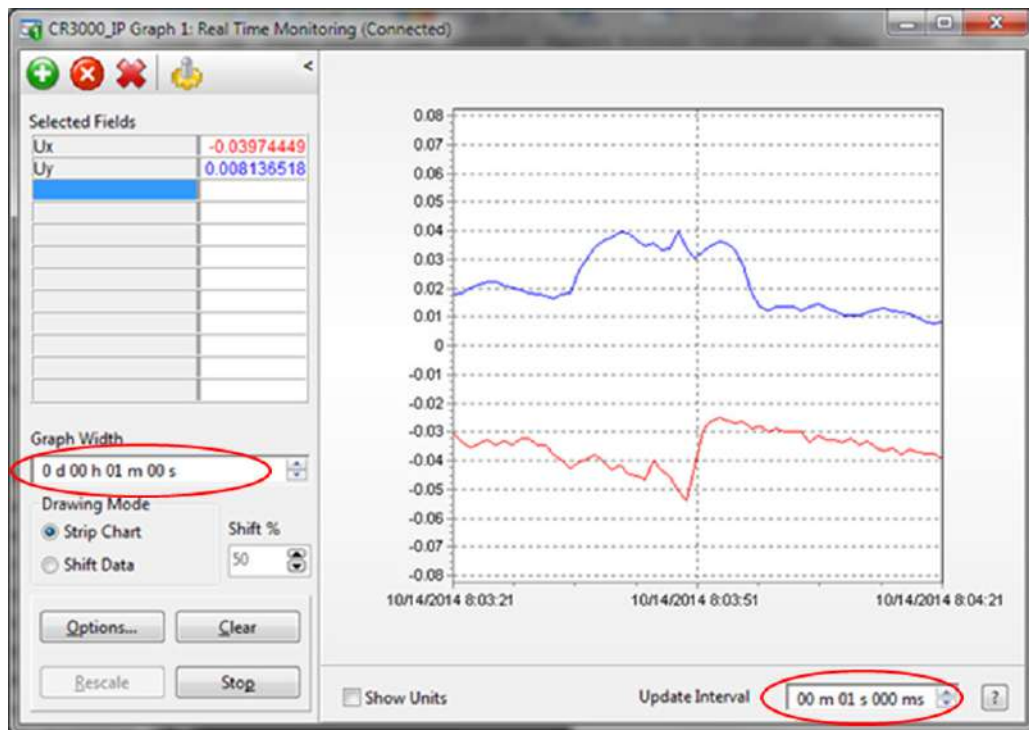

FIGURE 9-3. CSAT3B real-time data with 1 sec update and  $u_x$  and  $u_y$  wind component graphed
- a. On the first graph add the  $u_x$  and  $u_y$  wind components and set the y limits from  $-0.08$  to  $0.08$  as shown in FIGURE 9-3.